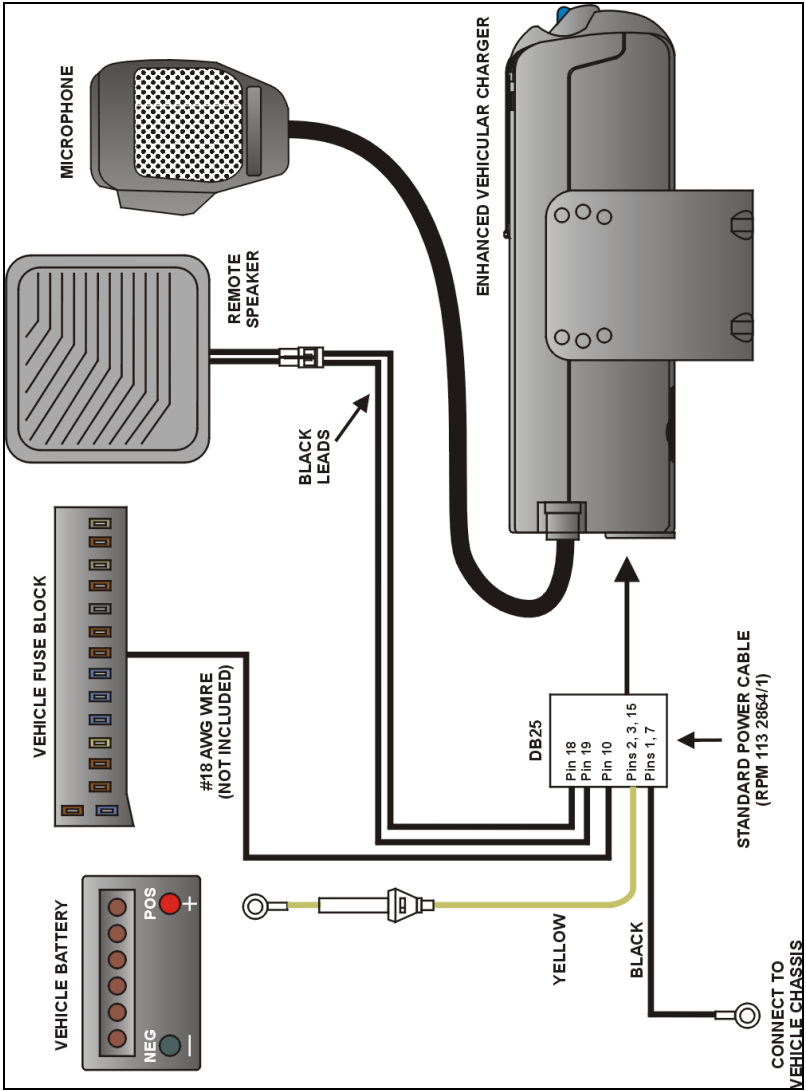

Figure 4-16: Switched Power Supply Installation Diagram
4. Connect the other end of the wire to an ignition “ON” sense point (preferably an “Accessory” point in the vehicle fuse panel) that is switched ON when the vehicle ignition switch is in the ACCESSORY and RUN positions. This lead should be connected so the vehicle fuse protection is used. See Figure 4-16.